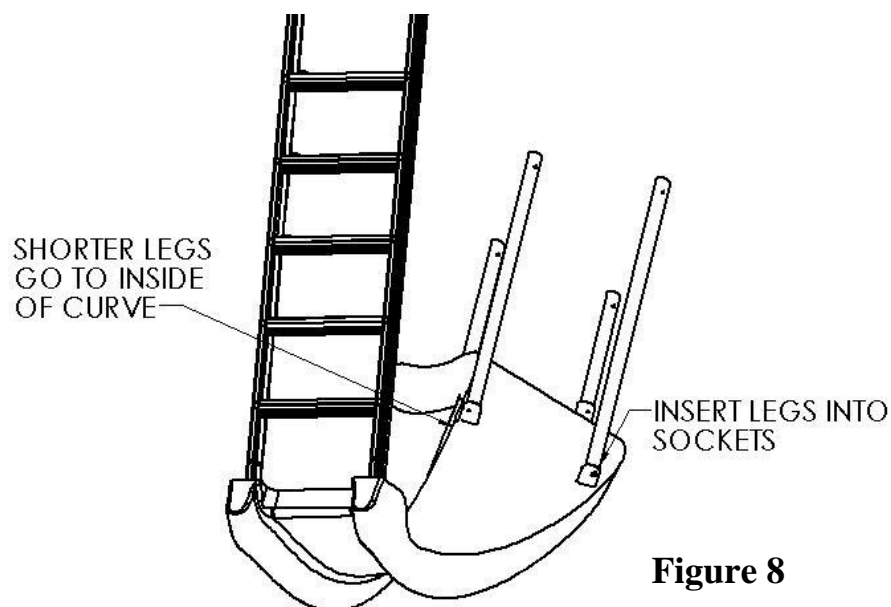

Figure 8
- 4) Insert the slide legs into the leg sockets of the slide. The shorter legs go into the sockets on the inside curve of the slide. Be sure to insert the end of the legs that do not have the pre-drilled holes into the leg sockets. Do not attach the legs permanently at this point. See Figure 8.